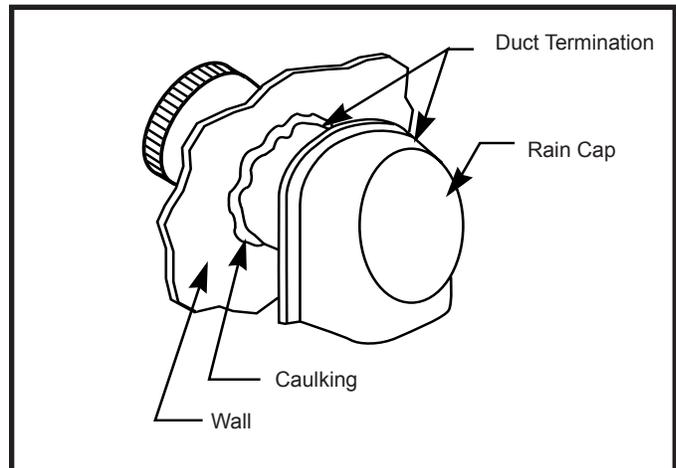

Fig. 5 Caulk and install duct termination/rain cap into place.
STEP 5 At the termination end, you should install the duct termination. This should be installed from the outside of the home and be covered with the rain cap (rain cap snaps in). Cut a hole in the desired location approximately 4 1/2" in diameter, caulk around the hole and slide the termination, with rain cap attached, through the opening from outside the home. The termination/rain cap should be caulked around the perimeter to assure a tight seal. The rain cap opening should be positioned downward. (Fig. 5) Your chimney collar enclosure installation is now complete.